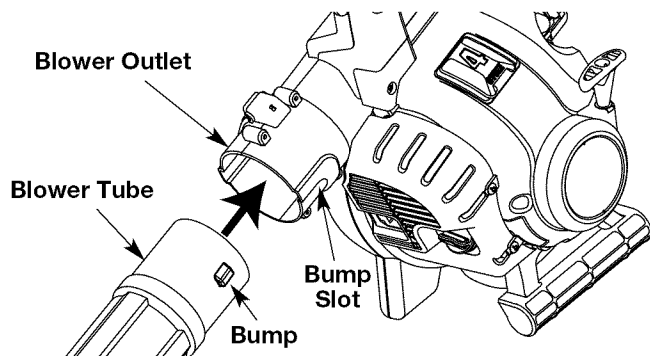

Fig. 1
1. Align the bump on the end of the blower tube with the bump slot on the bottom end of the blower outlet (Fig. 1).
2. Insert the bump on the blower tube into the bump slot on the blower outlet (Fig. 1).